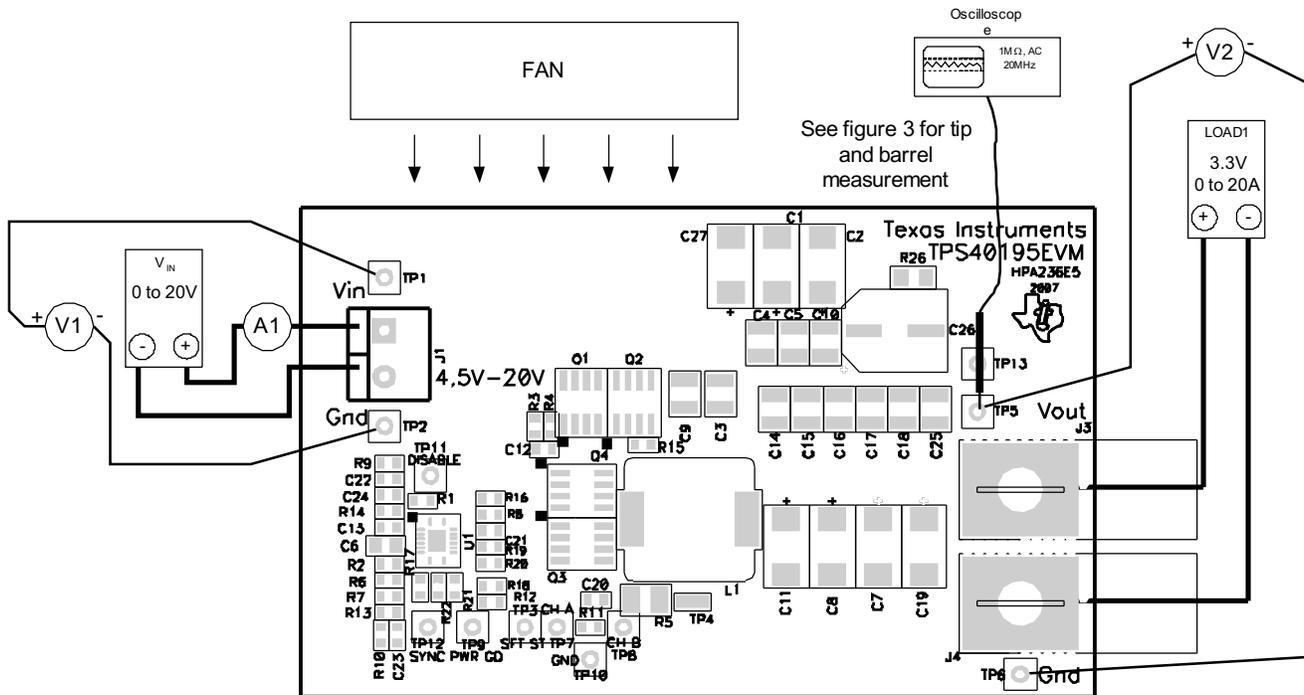

Figure 2. TPS40195EVM Recommended Test Set-Up
Shown in Figure 2 is the basic test set up recommended to evaluate the TPS40195EVM. Please note that although the return for J1 and J4 are the same, the connections should remain separate as shown in Figure 2.
2. Prior to connecting the dc input source,  $V_{IN}$ , it is advisable to limit the source current from  $V_{IN}$  to 20 A maximum. Make sure  $V_{IN}$  is initially set to 0 V and connected as shown in Figure 2.
3. Connect the ammeter A1 (0 A to 20 A range) between  $V_{IN}$  and J1 as shown in Figure 2.
4. Connect voltmeter V1 to TP1 and TP2 as shown in Figure 2.
5. Connect LOAD1 to J3 and J4 as shown in Figure 2. Set LOAD1 to constant current mode to sink 0 ADC before  $V_{IN}$  is applied.
6. Connect voltmeter, V2 across TP5 and TP6 as shown in Figure 2.
7. Place Fan as shown in Figure 2 and turn on, making sure air is flowing across the EVM.
1. Set up EVM as described in Section 5.2 and Figure 2.
1. Set up EVM as described in Section 5.2 and Figure 2